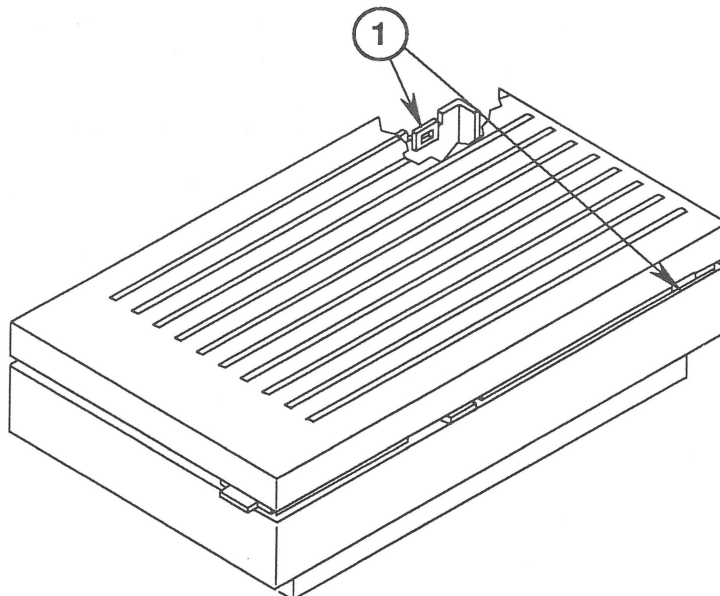

FIGURE 6
3. Locate the two plastic tabs shown in Figure 6, #1.